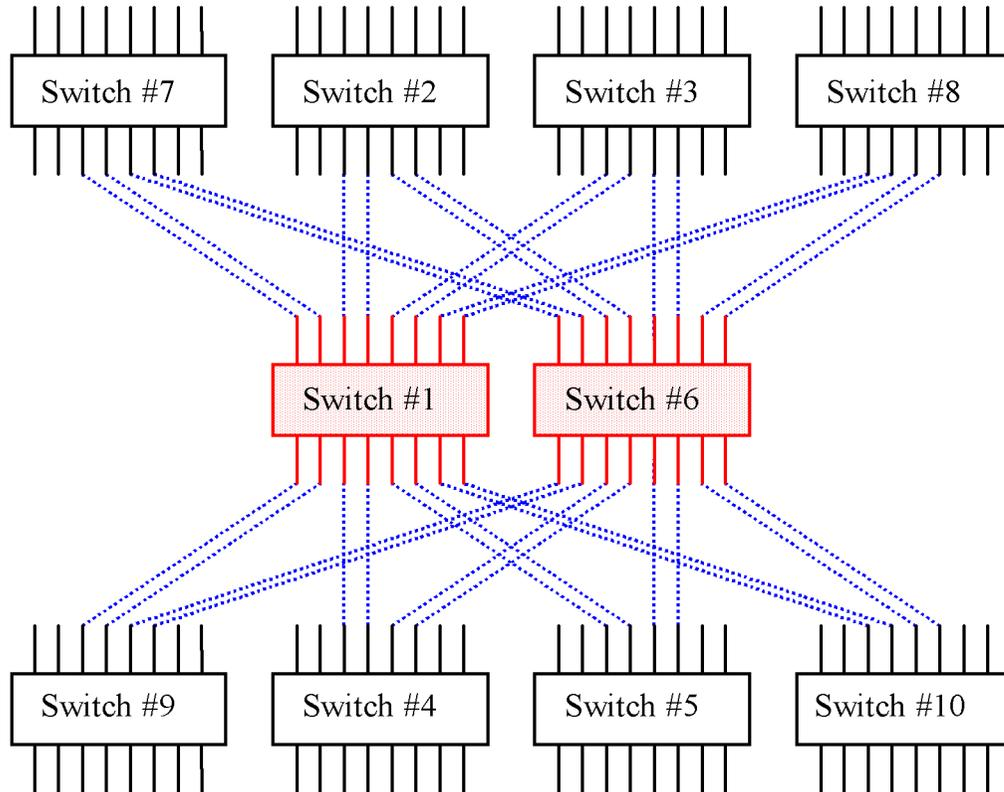

Figure 9. 96-Port High Connectivity Configuration
**NOTE:** Figure 9 is a logical representation of the switches in this configuration. The following tables list the physical ISL cables with the source and destination port used for the 96-Port high connectivity configuration.